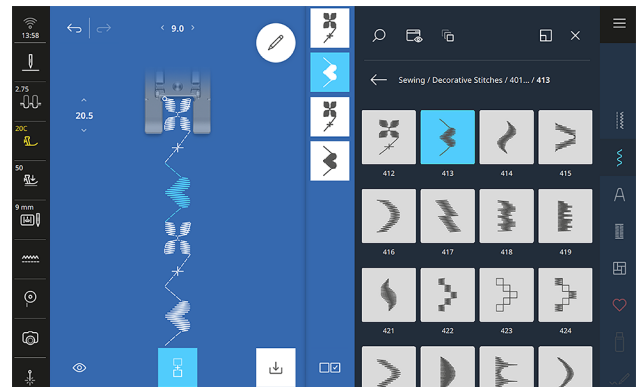

Fig. 18
3. Using a single finger touch gesture, drag and drop the stitch patterns into alternating order: flower, heart, flower, heart (Fig. 18).